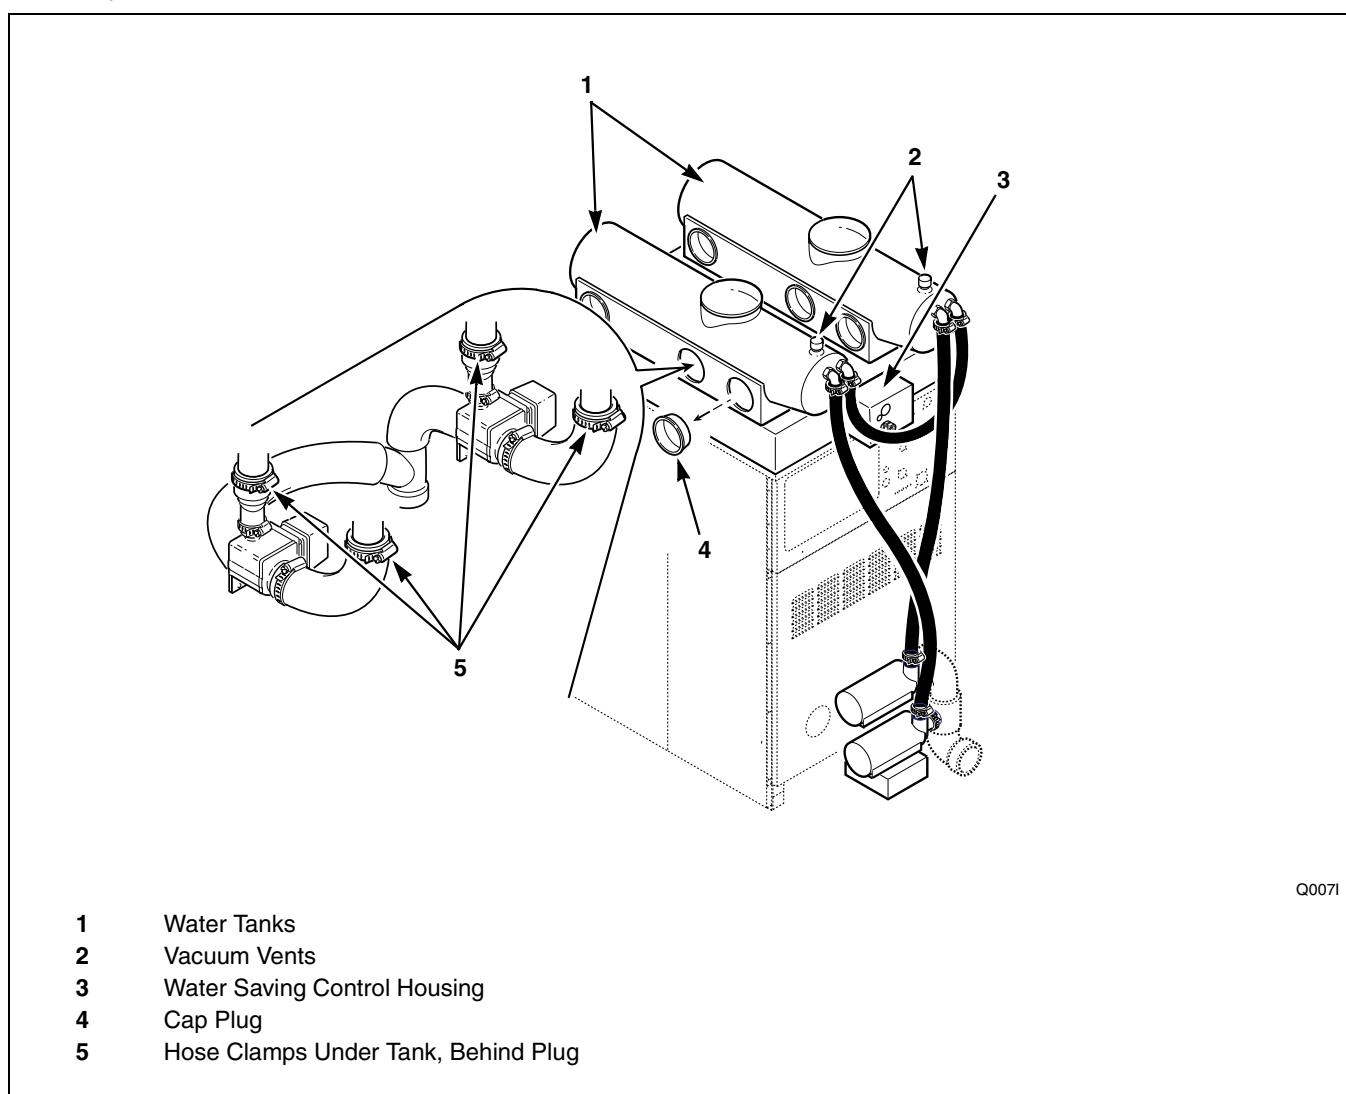

Figure 8
- b. Route the two pump motor cable connections to the WSS control housing (*Figure 8*). Slide cable connectors in and twist to lock. Pump cables and receptacles are marked "PA" and "PB". Refer to *Figure 7*.
- Remove the three cap plugs located near the rear and one located near the front on each side of the tanks. Refer to *Figure 8*.
- Loosen the two hose clamps attached at the bottom rear of each tank. Refer to *Figure 8*.